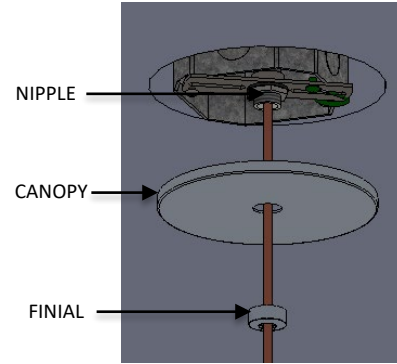

FIG. 17 – FINIAL ASSEMBLY
7. Raise CANOPY and secure to ceiling by threading the FINIAL to the NIPPLE (available in MOUNTING BRACKET ASSEMBLY) as shown below in FIG. 17.